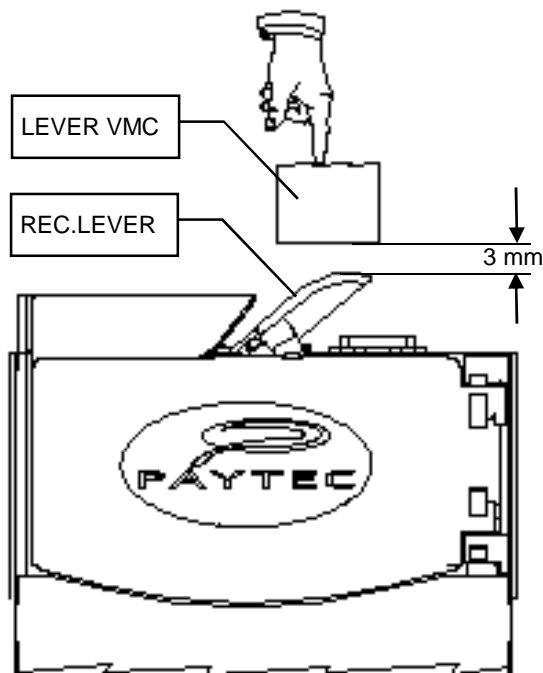

Fig.1G
- The coin recovery lever must be unconstrained (2-3 mm. from the lever of the VMC - Fig.1G).